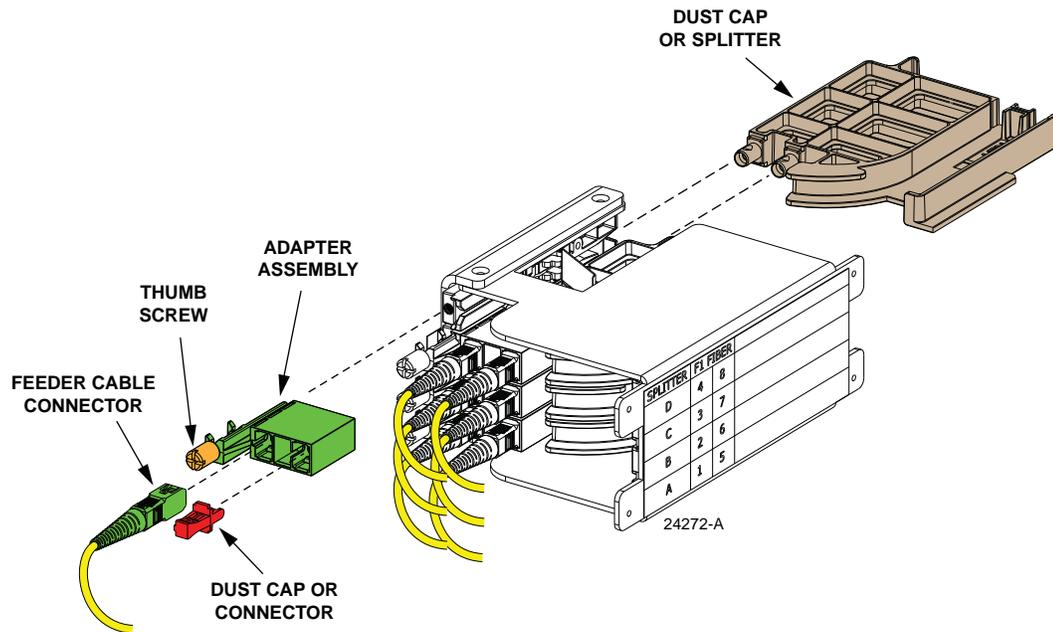

Figure 67. Splitter Compartment Adapter Replacement
3. Remove the feeder cable connector(s) from the rear side of the broken adapter assembly as shown in Figure 67 and install a dust cap on the connector(s).